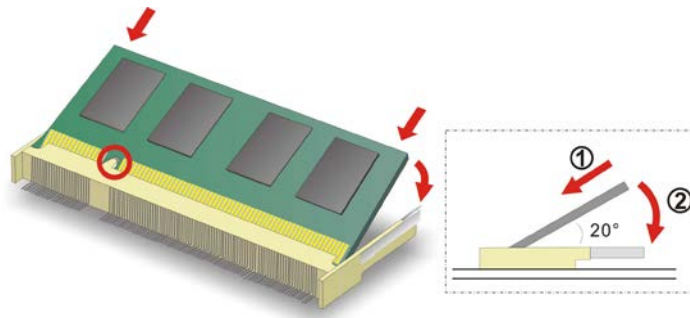

Figure 3-5: DDR4 SO-DIMM Module Installation
- Step 5:** Install the new DDR4 memory module by pushing it into the socket at an angle (Figure 3-5).
- Step 6:** Gently pull the spring retainer clips of the SO-DIMM socket out and push the rear of the DDR4 memory module down (Figure 3-5).